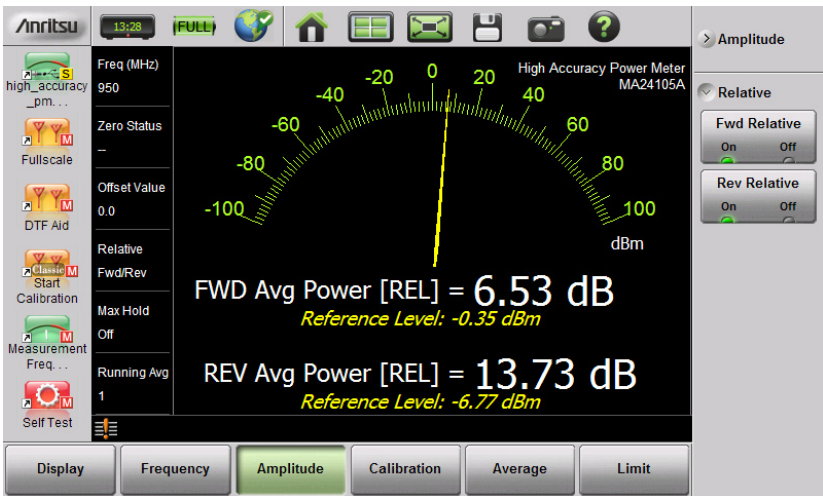

Figure 9-13. Forward and Reverse Relative Power
3. Any change in either forward or reverse power is now displayed relative to the set reference level power. Refer to Figure 9-13.